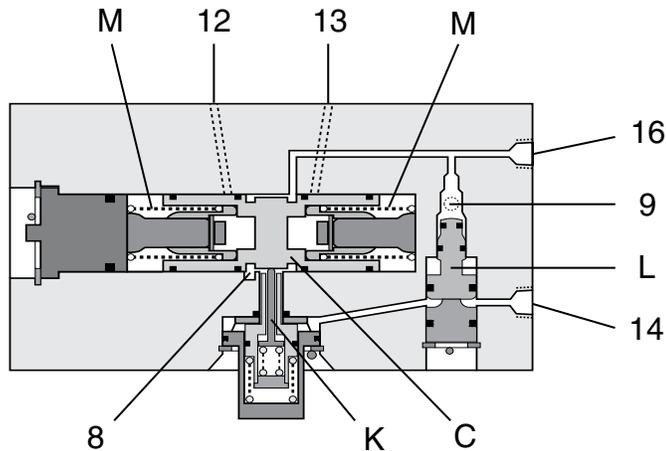

Figure 4 — Cross Section of L-G Monitor
**Lockout Signal Port.** Port 16 (Figure 4) can be connected to a pressure indicator to show when a lockout has occurred. During normal operation the pressure at port 16 is equal to line pressure, but during a lockout pressure drops to zero. This drop is due to the pilot air passage 9 being vented to atmosphere as described above. If port 16 is not used it
After the cause of a lockout has been corrected the spool in the monitor must be reset in its normal center position in order for the valve to function. This is done by applying an air pressure signal of at least 60 psig (4 bar) to the pneumatic reset port 14 (Figure 4). Pressurizing port 14 produces two results: (1) lockout pin K is lifted out of the lockout groove so that the centering springs M can return the spool to the center position, and (2) differential spool L is shifted so that it blocks pilot air passage 9, thereby cutting off pilot air supply during the resetting process. This keeps the valve inoperative while resetting air pressure is applied so that any attempt to circumvent the functions of the L-G monitor is inhibited.